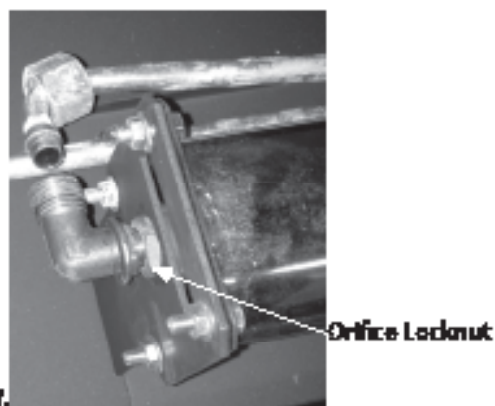

Figure 3.
Step 7: Loosen the orifice locknut (Figure 3, 13 mm) and unscrew the NG burner orifice from each of the burners.
Step 8: Screw an LP orifice into each burner until the orifice is aligned with the supply tube. See Figure 3.